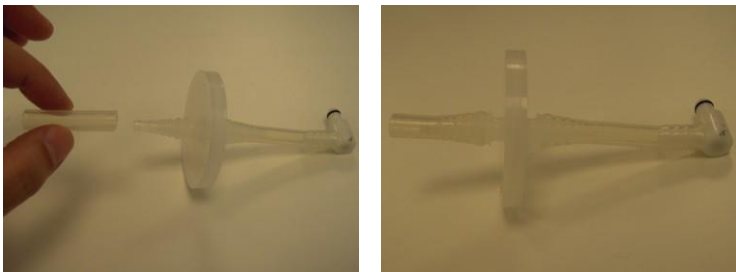

Figure 3-40. Connecting the Short Vacuum Tube to the Filter's Outlet port
4. Connect the shorter piece of the vacuum tube to the filter's **Outlet** port, as shown in Figure 3-40.